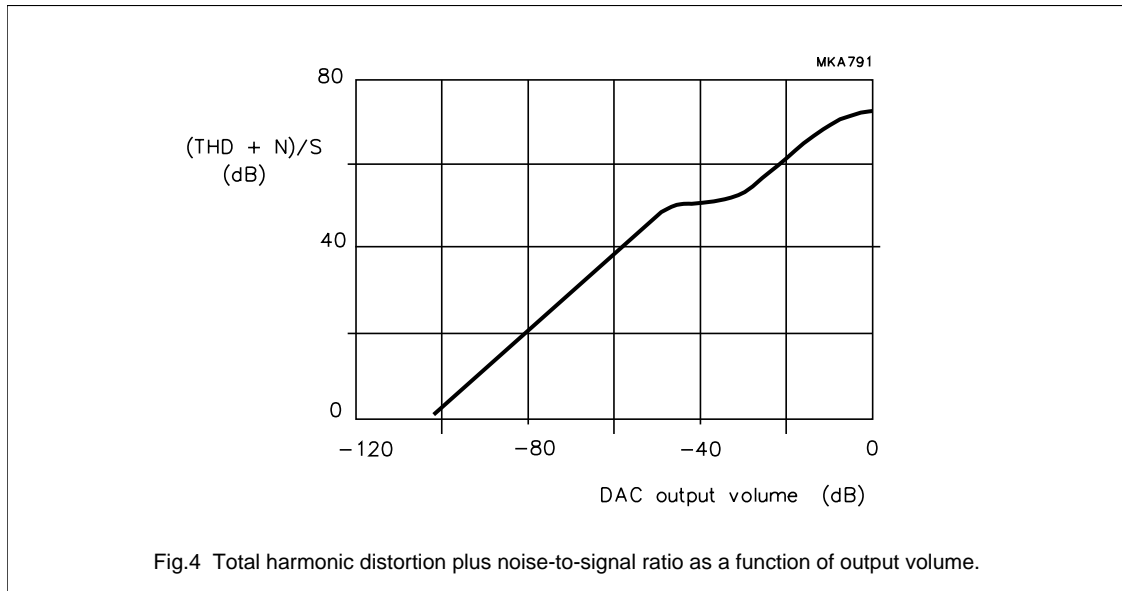

Fig.4 Total harmonic distortion plus noise-to-signal ratio as a function of output volume.
The word select input (pin 26) is connected to the word select line of the I²S-bus interface. This interface has a standard I²S-bus specification as described in the Philips "I²S-bus specification" (ordering number 9398 332 10011). Figure 4 shows an excerpt of the Philips I²S-bus specification interface report with respect to the general timing and format of the I²S-bus. WS logic 0 means left channel word, logic 1 means right channel word.
- MCLK (see Fig.4), which is a jitter free (maximum 30 ns jitter) external clock at any multiple integer from 45 to 128 times $4f_{as}$ (4 times the frequency of WS) of the I²S-bus input, thus for a sample frequency of 38 kHz this clock frequency will range from 6.840 MHz to 19.456 MHz in multiples of 152 kHz.